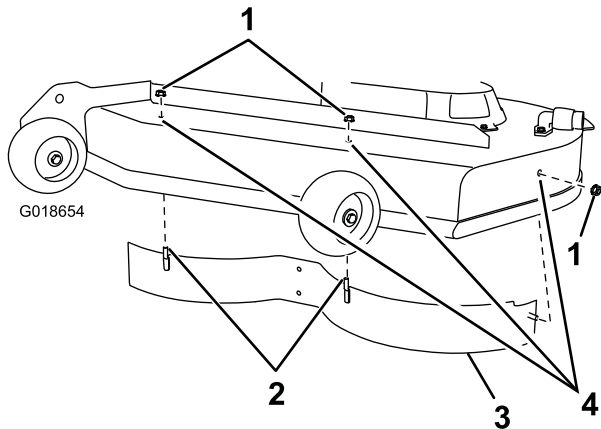

Figure 2
9. Remove the plug bolts and nuts at the locations shown in Figure 2.
10. Install the left-hand baffle to the mower deck using 3 locknuts (5/16 inch) to secure the welded posts of the left-hand baffle to the top of the mower deck at the positions shown in Figure 2.